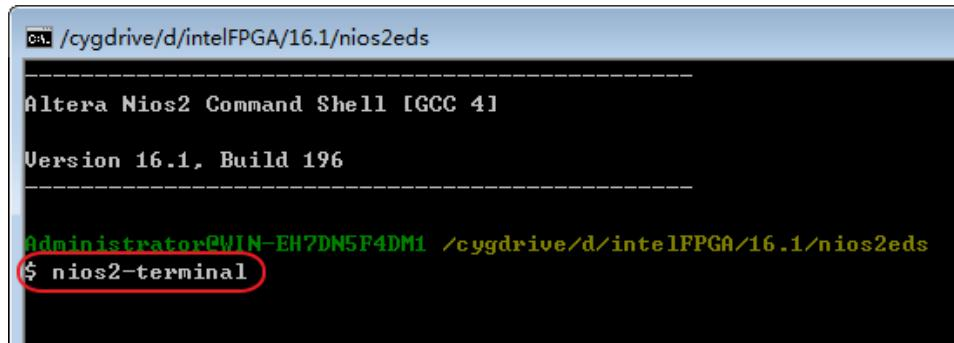

Figure 4-8 Open nios2 terminal in Nios II Command Shell
- Open the nios2-terminal in Nios II Command Shell as shown in Figure 4-8. The command shell is located in the Nios II EDS Installation directory, such as D:\intelFPGA\16.1\nios2eds.